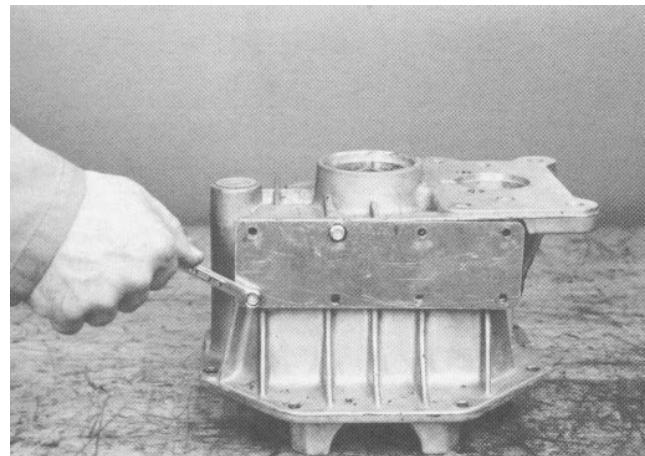

Figure 27
9. Remove the eight side cover capscrews. Remove the side cover from the carrier assembly (Fig. 27). Clean the gasket material from the mating surfaces before reassembly.